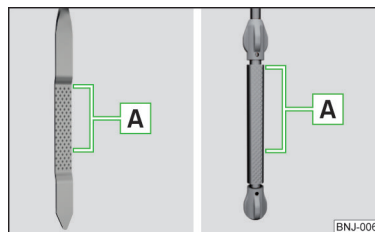

Fig. 260
The oil level must lie in range **A** » Fig. 260. If the oil level is below range **A**, oil must be added.
- The oil level must never fall outside range **A** » Fig. 260 – otherwise there is a risk of damaging the engine and the exhaust system.